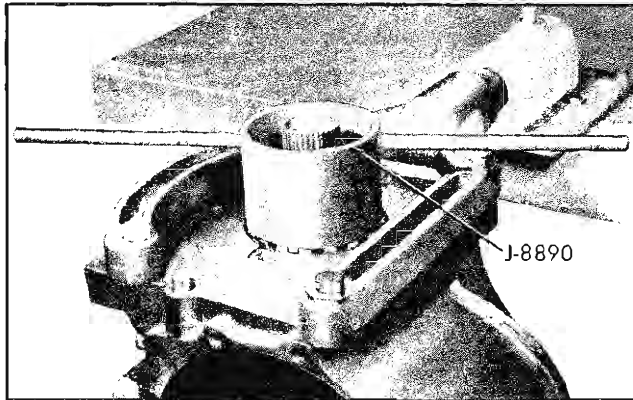

Fig. 4-29 Tool Positioned to Remove Front Pinion Bearing Adjusting Nut
8. Remove front pinion bearing adjusting nut using J-8890 (Fig. 4-29).